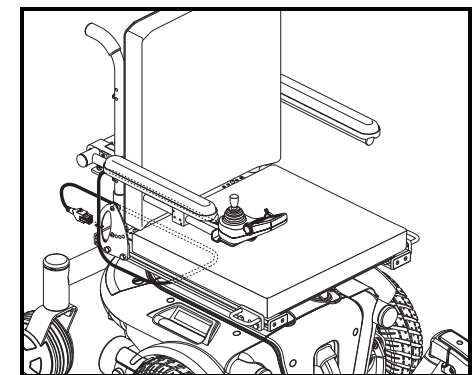

Figure 12. Controller Routed on a Synergy Seat
4. Install the controller and route the harness to the back of the power base. **See figure 12.**